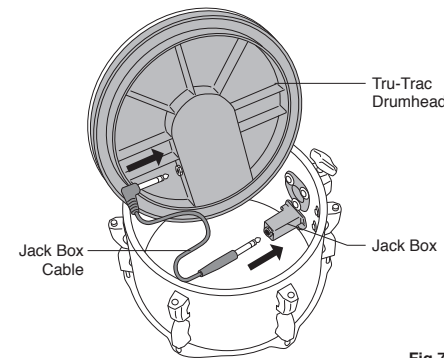

Fig.7
3. Insert the "L" shaped end of the Jack Box Cable into the Jack on the underside of the Tru-trac Drumhead (Fig. 7).
4. Insert the other end of the Jack Box Cable into the Jack Box inside the shell (Fig. 7).